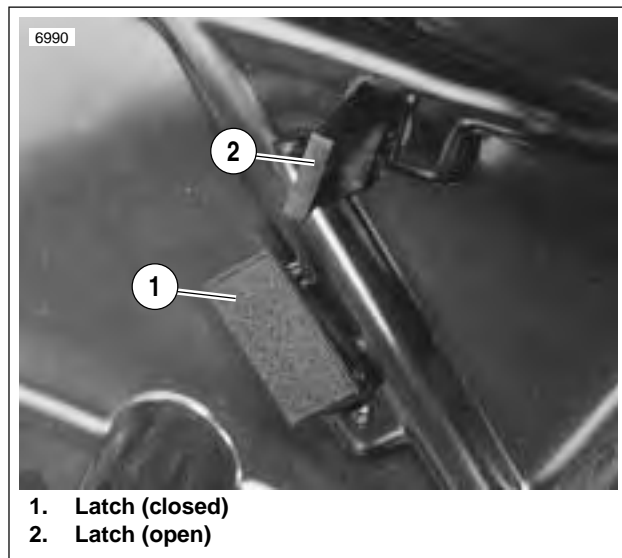

Figure 2-120. Saddlebag Latches
2. See Figure 2-120. Attach saddlebags to brackets by turning fasteners 1/4 turn to the rear. Handles will be parallel to molded channels inside saddlebag. Gently push fastener handles closed, do not force.